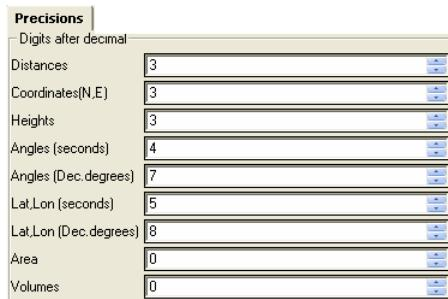

Figure 5-15. Precisions Tab
- The *Prestitions* tab (Figure 5-15 on page 5-16) defines the number of digits after decimal.